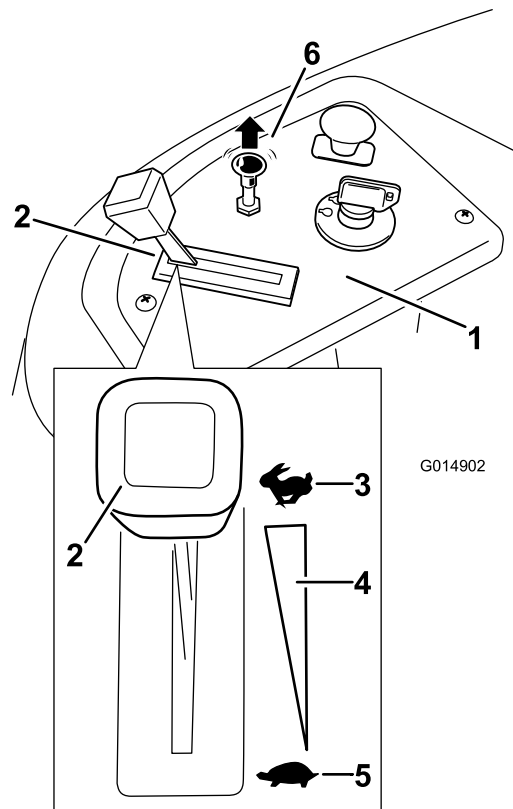

Figure 13
3. Pull up on the Choke control before starting a cold engine (Figure 13).
2. Move the throttle lever to between Fast and half throttle (Figure 13).